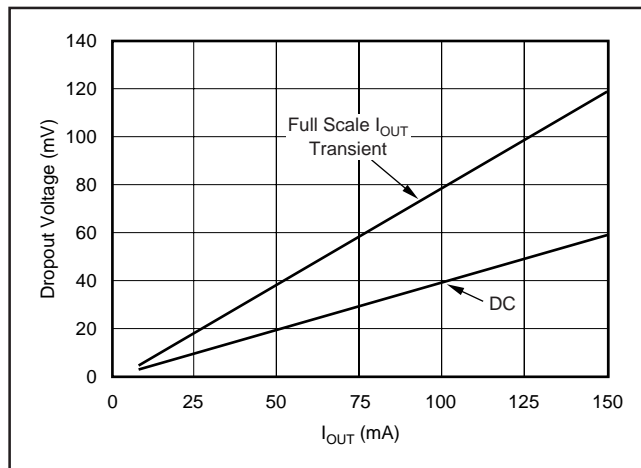

FIGURE 6. Transient and DC Dropout.
The REG101 uses an N-channel DMOS as the “pass” element. When the input voltage is within a few tens of millivolts of the output voltage, the DMOS device behaves like a resistor. Therefore, for low values of  $V_{IN}$  to  $V_{OUT}$ , the regulator’s input-to-output resistance is the  $R_{ds(ON)}$  of the DMOS pass element (typically 600m $\Omega$ ). For static (DC) loads, the REG101 will typically maintain regulation down to  $V_{IN}$  to  $V_{OUT}$  voltage drop of 60mV at full rated output current. In Figure 6, the bottom line (DC dropout) shows the minimum  $V_{IN}$  to  $V_{OUT}$  voltage drop required to prevent drop-out under DC load conditions.
For large step changes in load current, the REG101 requires a larger voltage drop across it to avoid degraded transient response. The boundary of this “transient drop-out” region is shown as the top line in Figure 6. Values of  $V_{IN}$  to  $V_{OUT}$  voltage drop above this line insure normal transient response.